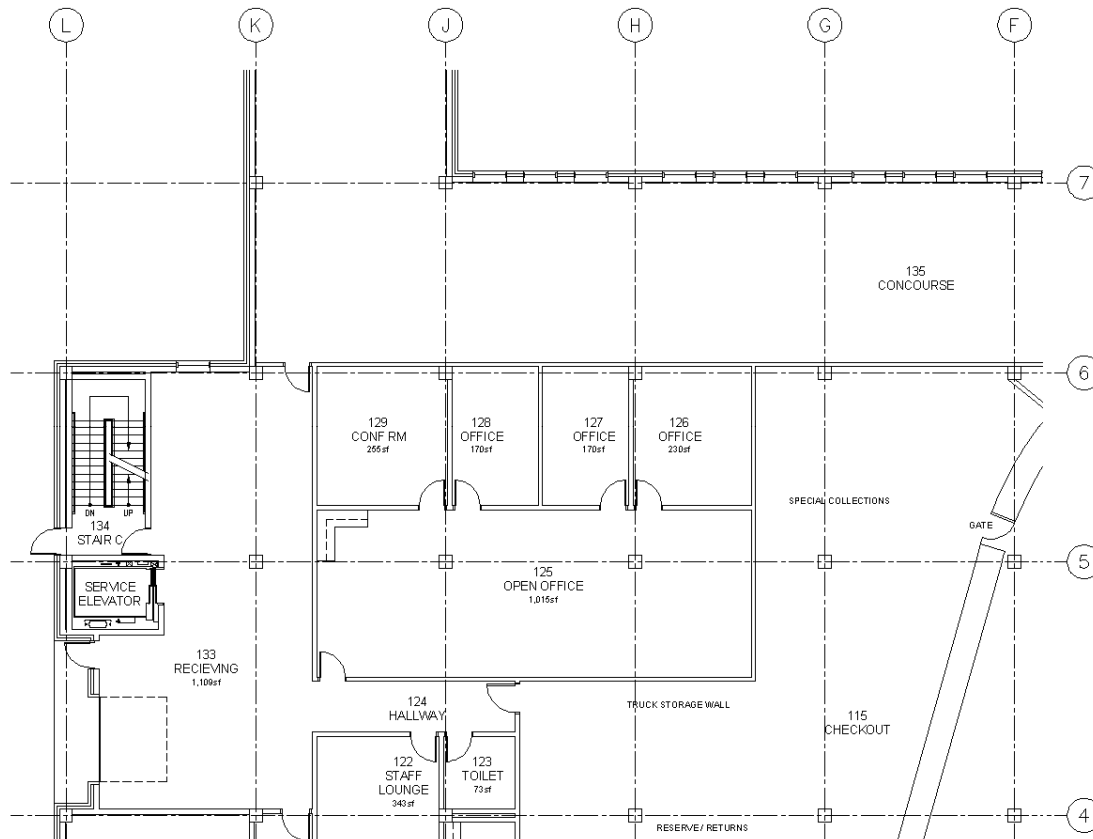

Figure 4-4.10 Adding room information
24. Per the previous instruction: create a *Polyline* and add the room information (as *Mtext* + *Field*) for the remaining rooms, as shown in Figures 4-4.10 through 4-4.13; you may ignore the areas not labeled.